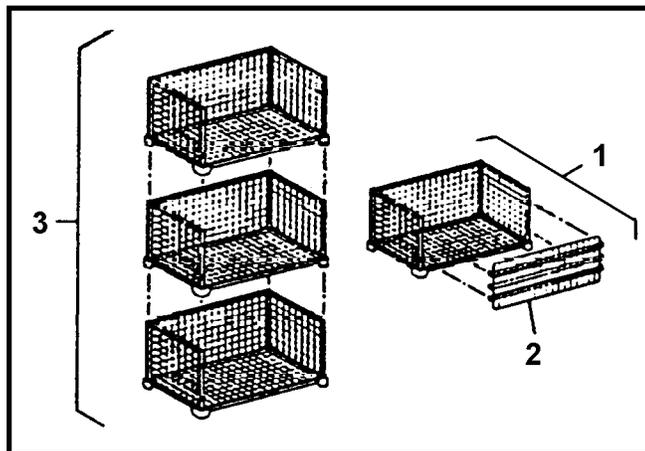

Figure 2-30. Rack assembly.
- (1) Pull out the leg assembly until the linkage snaps into place in the fully extended position.
- (2) Place the work table shelf on the leg crossbar and the shelf of the base rack.
- (3) Attach the lip of the drain table to the sink body assembly.
- (4) Incline the drain table so that the proper drainage occurs.
- d. Assemble the drying and storage racks. (See Figure 2-30.)